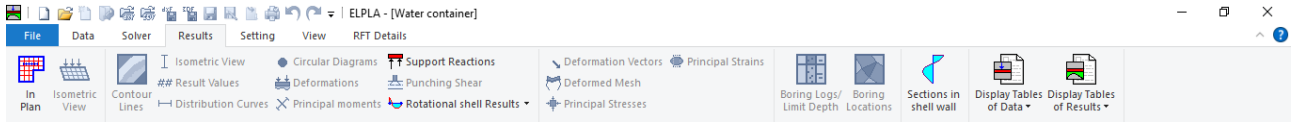

Figure 10.25 "Results" Tab
*ELPLA* can display and print a wide variety of results in graphics, diagrams or tables through the "Results" Tab. To view the data and results of a problem that has already been defined and analyzed graphically, switch to "Results" Tab (Figure 10.25).